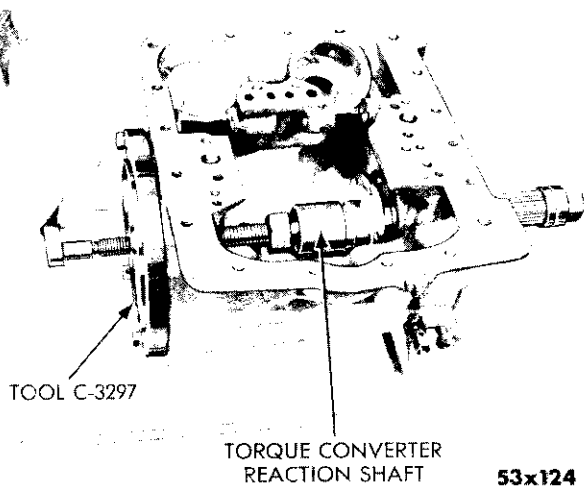

Fig. 34—Removal of Torque Converter Reaction Shaft
- (1) Remove neoprene seal ring.
- (2) Remove the three transmission case to reaction shaft screws and washers.
- (3) Using Tool C-3297 or C-3521 press reaction shaft out of transmission case, as shown in Figure 34.
- (4) Remove the two torque converter reaction shaft seal rings (interlocking).